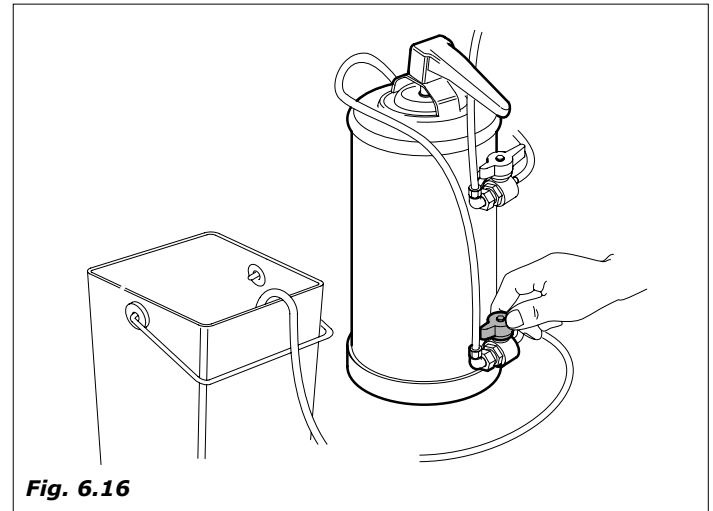

Fig. 6.16
- turn the lower faucet being careful to put the relative hose in a bucket or better in a drain (Fig. 6.16).